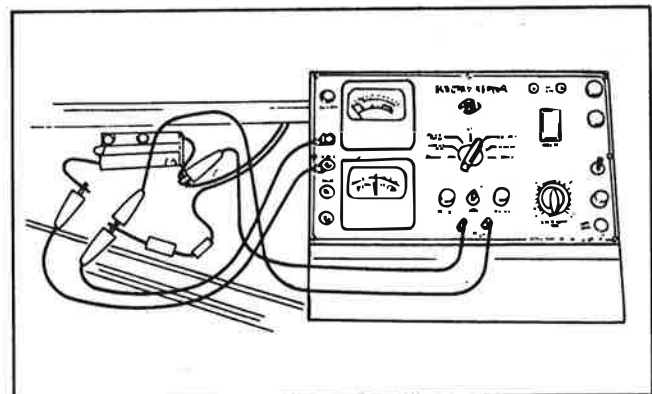

Fig. 6-5-2
2. Connect "Electro Tester" as shown. (Fig. 6-5-2)